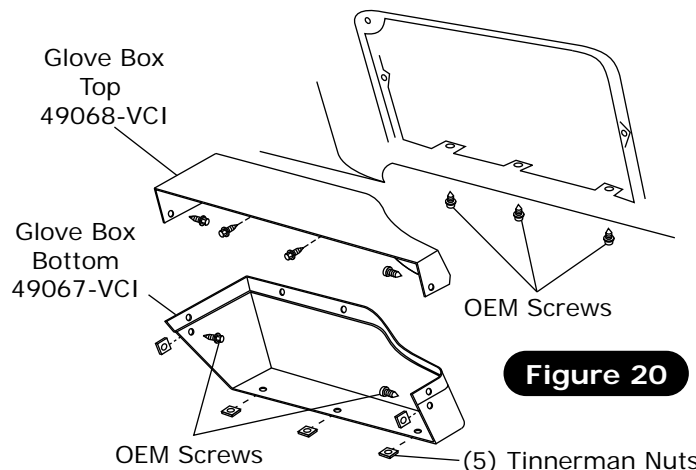

Figure 20
6. Install new glove box as shown in Figure 20, below.
1. The new glove box is made in (2) pieces for easy installation. Install (5) #8 U-nuts in glove box bottom.
2. Insert bottom half of new glove box, securing only with one OEM screw on each side through dash holes (See Figure 20, below).
3. Insert top half of glove box and fasten to bottom half using (4) #6 X 3/8" pan head screws (See Figure 20, below).
4. Install glove box door using (5) OEM screws as shown in Figure 20, below.